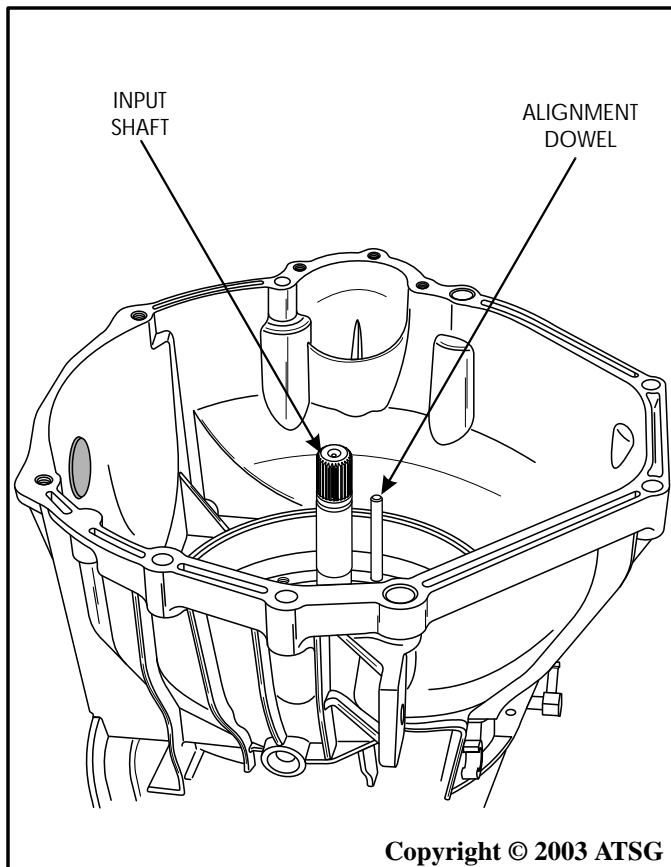

Figure 184
29. Install an alignment dowel in one of the pump holes in case, as shown in Figure 184.
30. Install the input shaft into transmission, to also help with alignment concerns (See Figure 184).